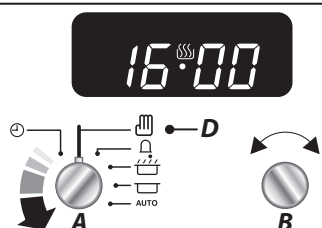

Fig. 3.15
Turn the **Timer (A)** knob to the **Clock (C)** setting. Turn the **Adjusting (B)** knob counter clockwise until the tone bars are displayed (Fig. 3.15).